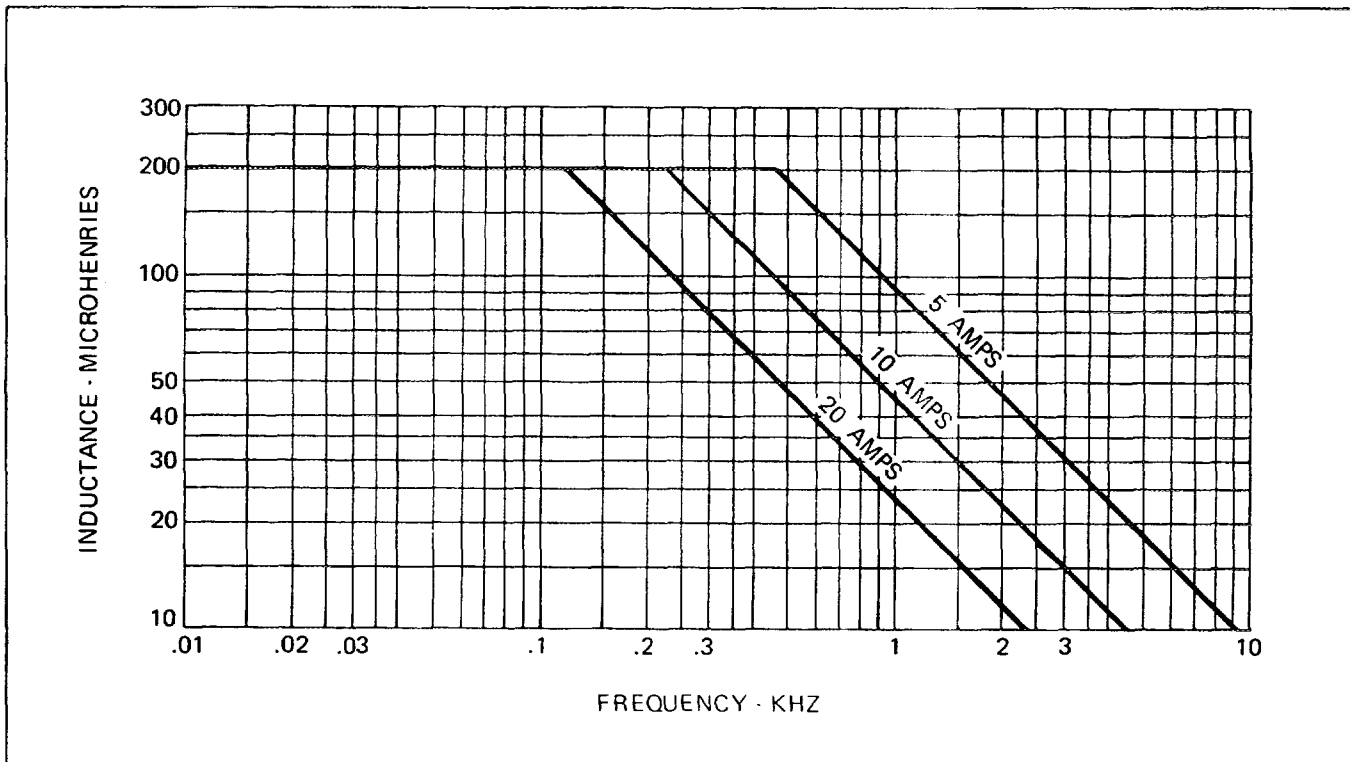

Figure 2-2. Maximum Load Inductance vs Frequency
1. Compliance voltage (3.0V maximum) places a restriction on the product of inductance and operating frequency for a given output current. This is illustrated in Figure 2-2 for maximum load inductance vs frequency at output currents of 5, 10, and 20 amperes.